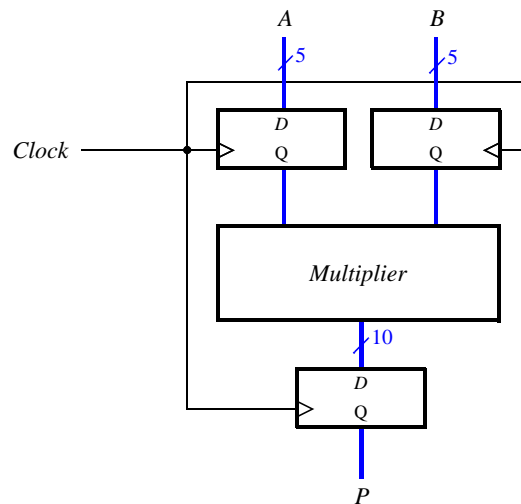

Figure 6: A registered multiplier circuit.
4. Design and test (write a test-bench in vhdl and test in ModelSIM) a registered multiplier circuit, integrating two registers to store the operands and another register to store the result, as shown in Fig. 6. Notice the difference in register size.
Each n -bit adder adds a shifted version of A for a given row and the partial sum of the row above. Abstracting the multiplier circuit as a sequence of additions allows us to build larger multipliers. The multiplier should consist of n -bit adders arranged in a structure shown in Figure 5. Use this approach to implement an 8x8 multiplier circuit with registered inputs and outputs, as shown in Figure 6.